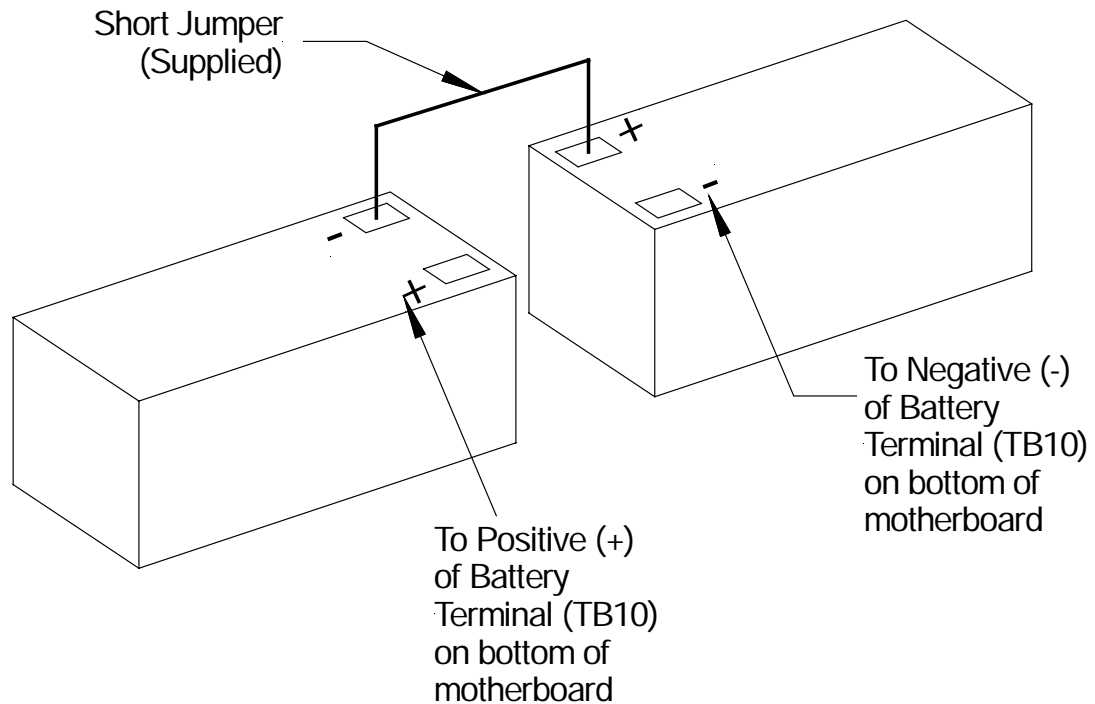

Figure 4-15 Battery Alignment and Jumper Connection
3. Refer to Figure 4-15 and place one 12-Volt battery with the battery terminals on top and to the right. Place the second battery to the right of the first battery with the battery terminals on top and to the left.
CAUTION: Always install the two batteries with the battery terminals pointing to the center and in the upright position as shown in Figure 4-15. Failure to do so may cause a short circuit which may damage the SP40S panel or batteries and cause the panel to fail to operate in an emergency condition.
4. Connect the short jumper (included) to the back terminals (negative to positive) of the two batteries as shown in Figure 4-15. This connects the 12VDC batteries in series in order to produce 24VDC.